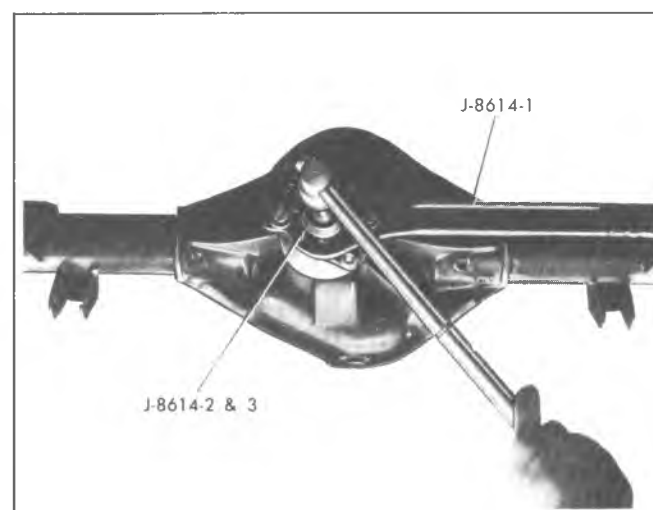

Fig. 17F--Removing Pinion Flange
3. Install Tool J-8614-2, and 3 into holding bar as shown in figure 17F and remove flange from drive pinion. Remove drive pinion from carrier.